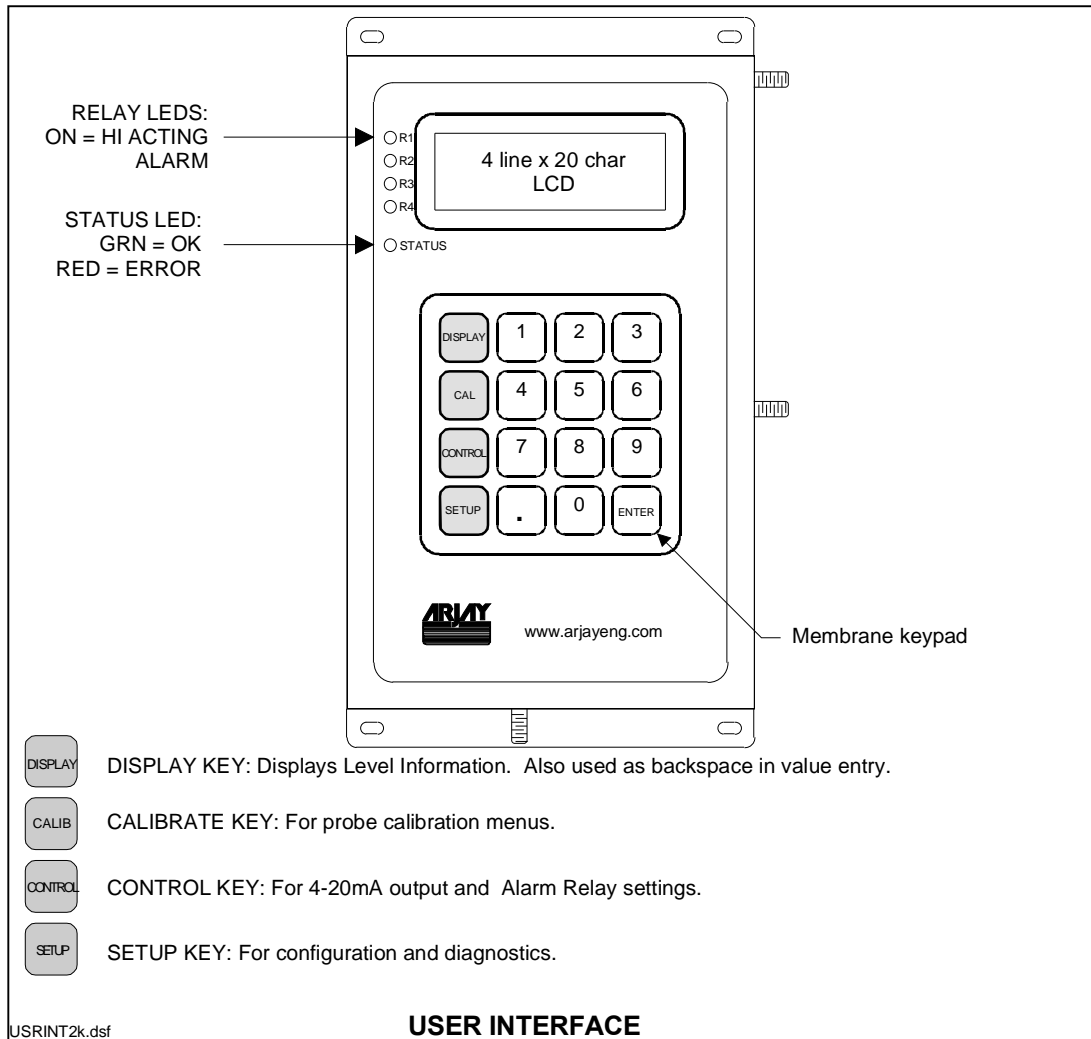

Figure 3.0
**2400 SERIES MODELS: An Arjay Central Access Panel (CAP) or Handheld Calibrator is required to access the “blind” 2400 series models. In either case, the keypad and LCD are as shown in Figure 3.0.**
The Status Indicator (see figure 3.0) should be green. If it is red then the LCD displays the kind of System Error. See the troubleshooting guide for details.